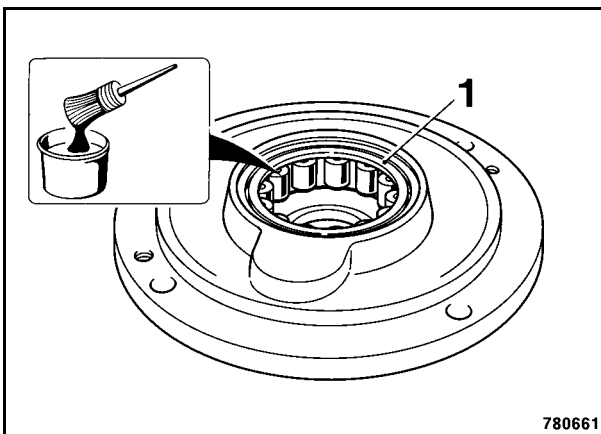

Fig. 6
8. Knock the new bearing 1 (Fig. 6) into the bearing housing until it bottoms.